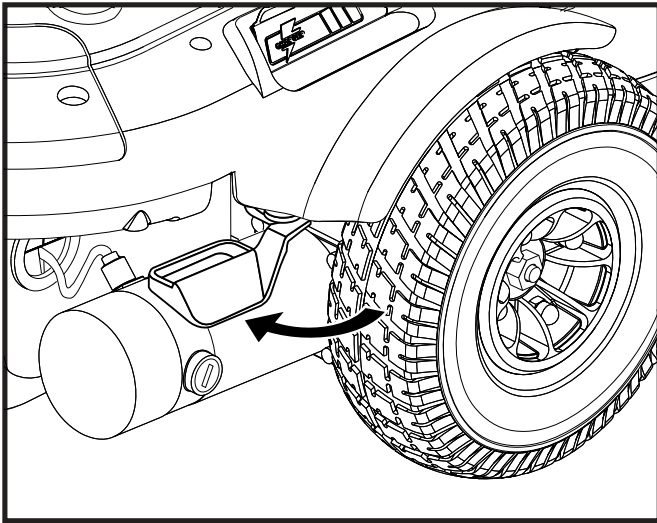

Figure 8. Drive Mode (Drive Engaged)
2. Push the two levers inward to engage the drive motors (drive mode). See figure 8.